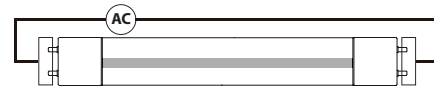

Figure 1. - Double-Ended connection
6. LED T8 lamps are designed for double-ended connections only (**Figure 1**).